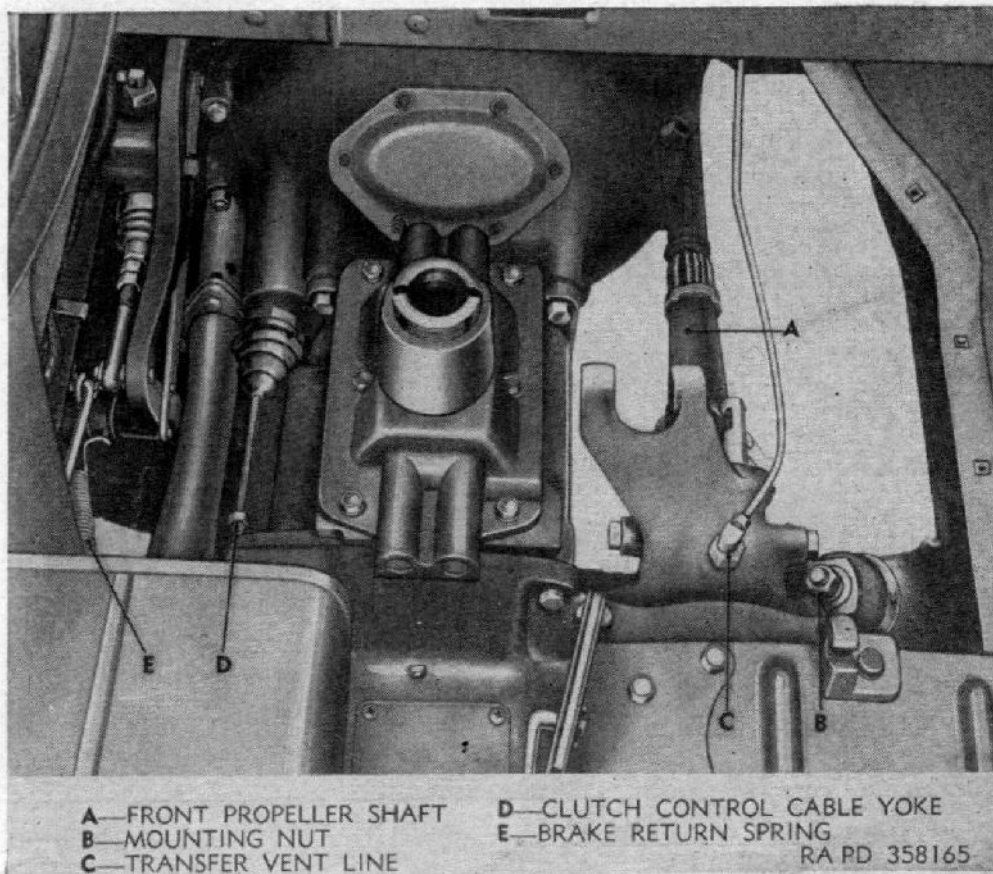

Figure 38. Disconnect points in passenger compartment with cover plates removed.
- ring and remove. Remove four cap screws securing brake master cylinder inspection cover (K) to transmission cover plate and remove cover. Remove three cap screws securing floor board extension (C) above steering column and remove toe board extension.
- (4) Remove the 10 remaining cap screws securing the toe board cover plate (E) and remove toe board cover plate with starter switch pedal attached. Remove the 11 remaining cap screws securing the transmission cover plate (H) and remove transmission cover plate.
- (5) Disconnect rear universal joint of front propeller shaft (A, fig. 38) (par. 167).
- (7) Remove mounting nut (B, fig. 38), mounting bolt, flat washer, and lock washer attaching transfer to frame cross member.
- (9) Remove cotter pin and remove clevis pin from clutch control cable yoke (D, fig. 38) to disconnect clutch control cable from clutch and brake pedal cross shaft. Unhook brake return spring (E, fig. 38) from brake lever.
- (1) Install two nuts and lock washers securing transmission and transfer support (G) to frame cross members.
- (2) Install mounting bolt, flat washer, and mounting nut (B, fig. 38) securing transfer to frame cross member and tighten securely.
- (1) Hook brake return spring (E, fig. 38) to brake lever. Install clutch control cable yoke (D) to clutch and brake pedal cross shaft; install clevis pin through yoke and secure with cotter pin.